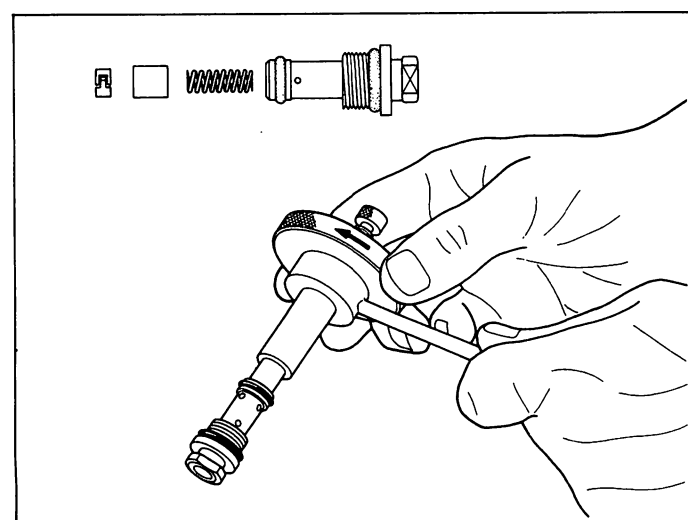

Fig. 110 Disassembling the regulating valve
- 2) Using the extractor (157829-4620), remove the spring ring, and then remove the piston and spring. Next, push the plug outwards. (Figs. 110 and 111)